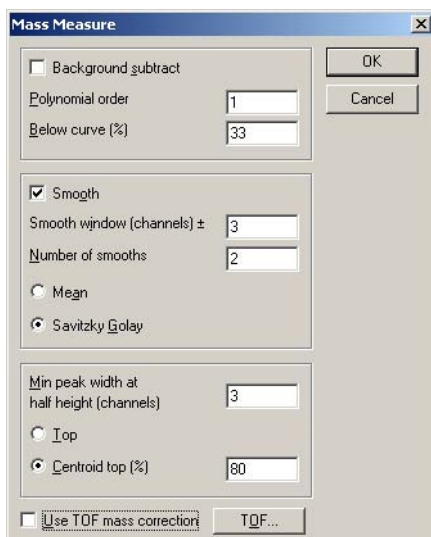

Figure 3-8 Mass Measure Dialog Box
7. From the Calibration window, select Edit > ToF Mass Measure Parameters to open the Mass Measure dialog box (Figure 3-8).